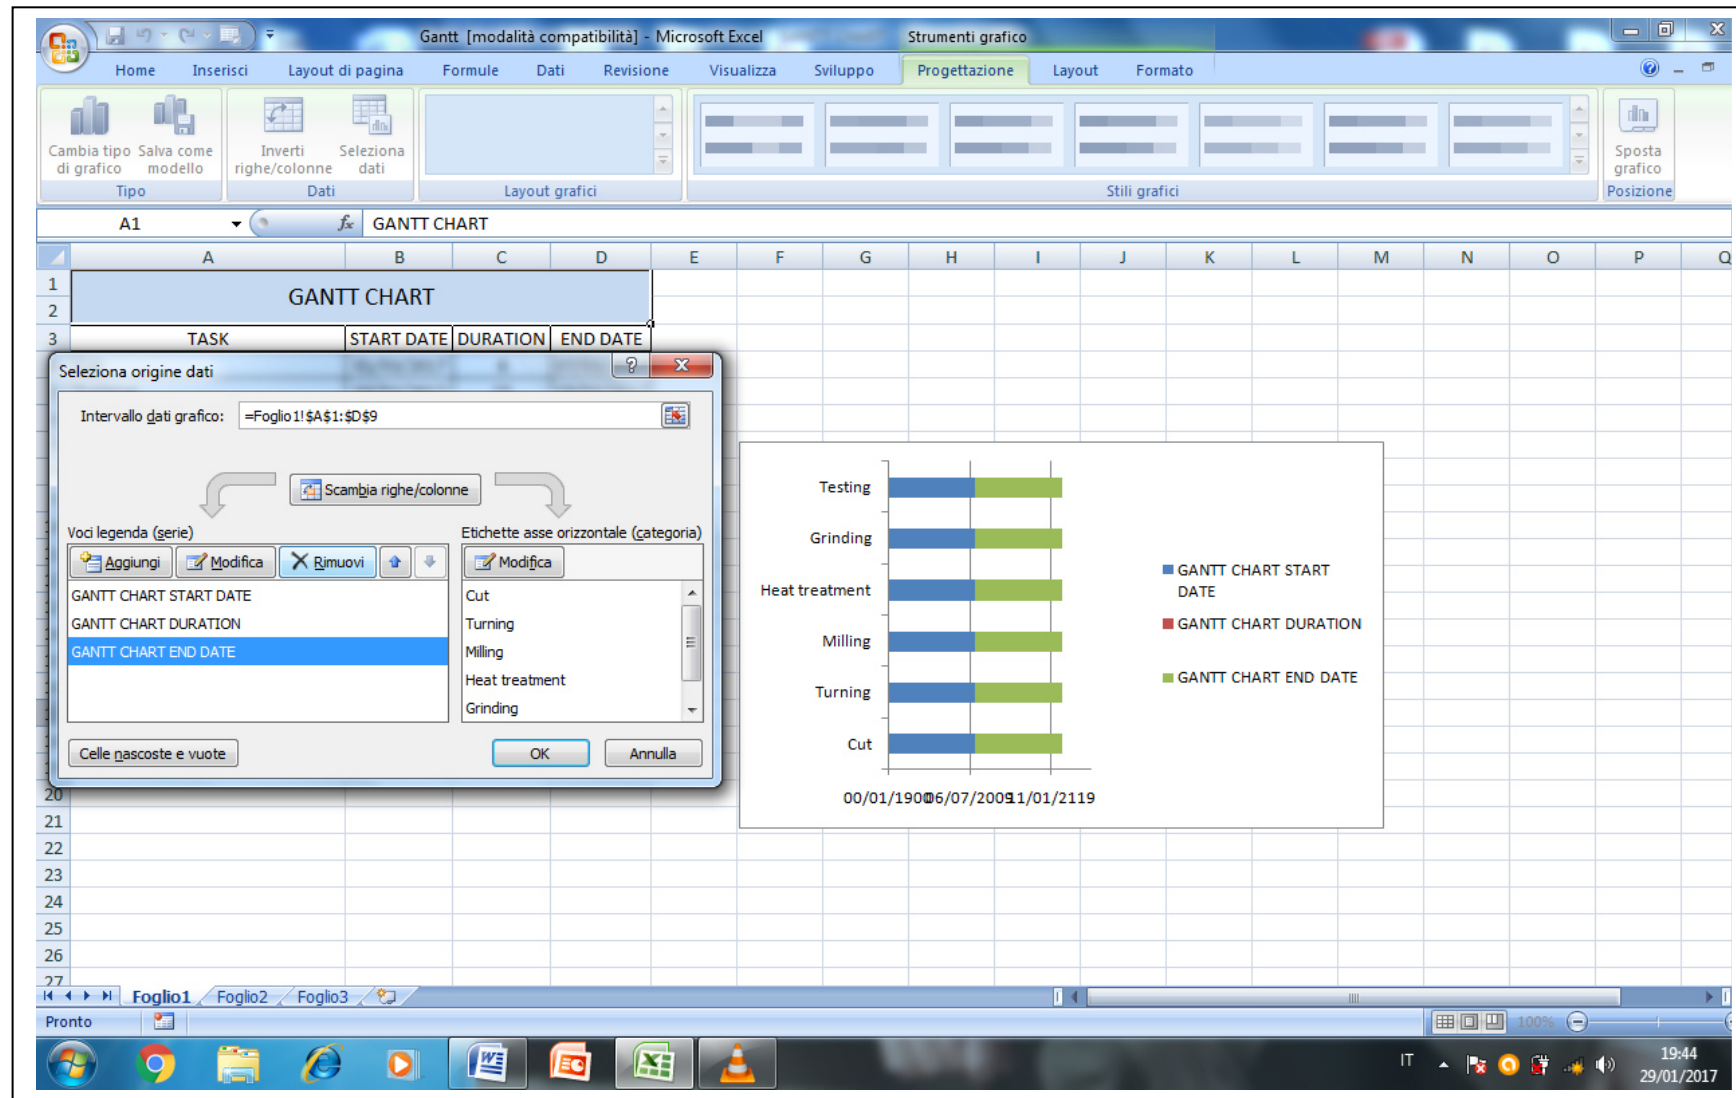

Fig.5-Remove the third series
4) In the “select origin data” window, select “GANTT CHART DATE” (third series) and then remove it (Fig.5)